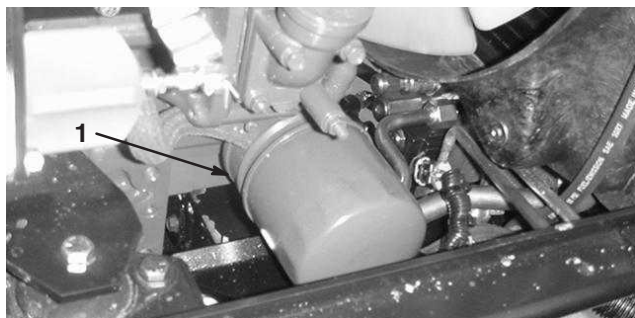

Figure 47
2. Remove the oil filter (Fig. 47). Apply a light coat of clean oil to the new filter seal before screwing it on. **Do not overtighten.**